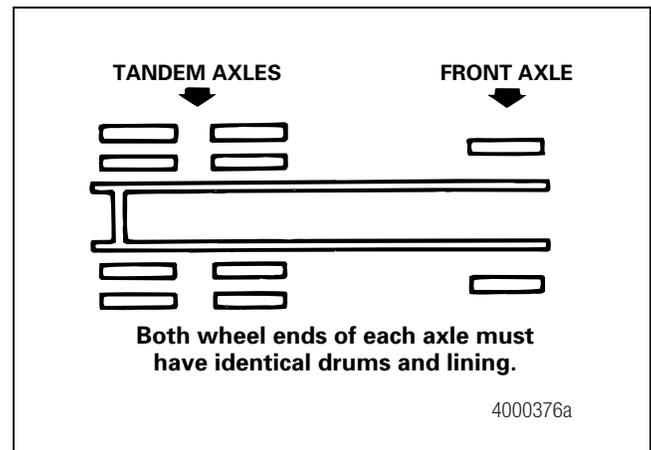

Figure 11.1
4. Both wheel ends of each axle must have the same linings and drums. All four wheel ends of tandem axles also must have the same linings and drums. It is not necessary for the front axle brakes to be the same as the rear drive axle brakes. Figure 11.1.